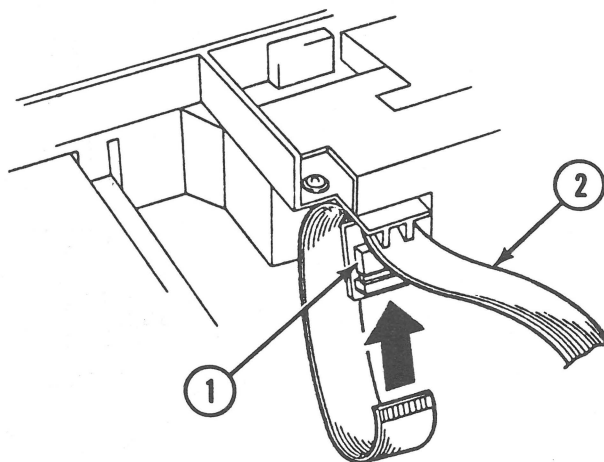

FIGURE 13
3. Lay the whole optical assembly on the top of the scanner bed and attach the flexible cable to connector CN1 (Figure 13, #1) on the CCD PCB. Make sure the cable (Figure 13, #2) is looped around the connector.